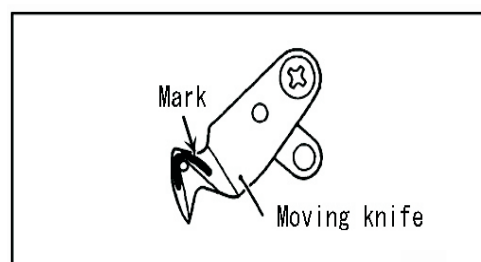

Fig.3
5. Put a mark with a water-color marker on the moving knife.(Fig. 3)